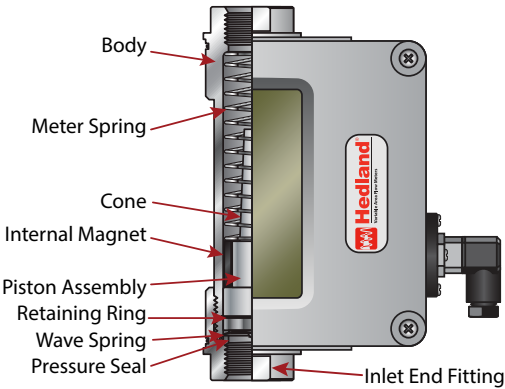

Figure 14: Cartridge components
4. Remove the inlet port wave spring, retaining ring, and cone from the body (see *"Figure 14: Cartridge components" on page 20*).